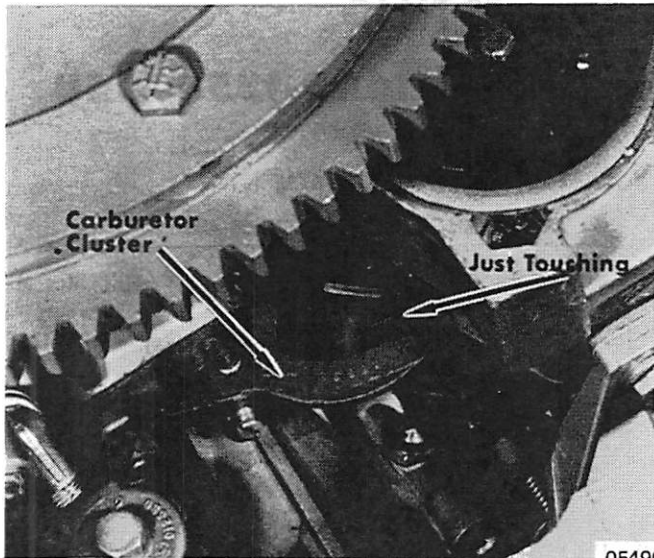

Figure 4. Primary Pickup and Carburetor Cluster
2. With flywheel timing mark aligned as above, the primary pickup should just touch carburetor cluster. (Figure 4)